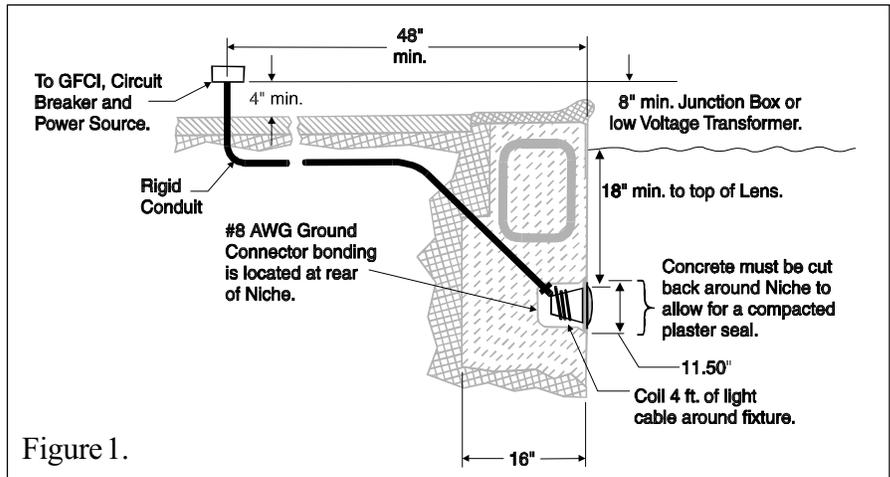

Figure 1.
A. Preparatory steps which must be completed by the electrician before the light fixture is installed; see Figure 1.
- b. The Junction Box (or, for 12 volt models, the low voltage transformer) is located at least 8 inches above water level and at least 48 inches from the edge of the pool; see Figure 1.
- d. The wet niche is properly installed so that the top edge of the underwater light's lens is at least 18 inches below the surface of the water in the pool; see Figure 1.
- e. The wet niche is properly electrically bonded and grounded via the No. 8 AWG ground connector located at the rear of the niche; see Figure 1.
1. Feed cord through conduit to Junction Box, leaving at least 4 feet of cord at the light fixture to coil around the light; see Figure 1. This 4 feet of cord around the light allows the light to be serviced after the pool is filled with water.
- b. The Junction Box (or, for 12 volt models, the low voltage transformer) is located at least 8 inches above ground level and at least 48 inches from the edge of the pool; see Figure 1.
- Leave at least 4 feet of cord to coil around the light fixture; see Figure 1. This 4 feet of cord coiled around the light allows the light to be serviced after the pool is filled with water.